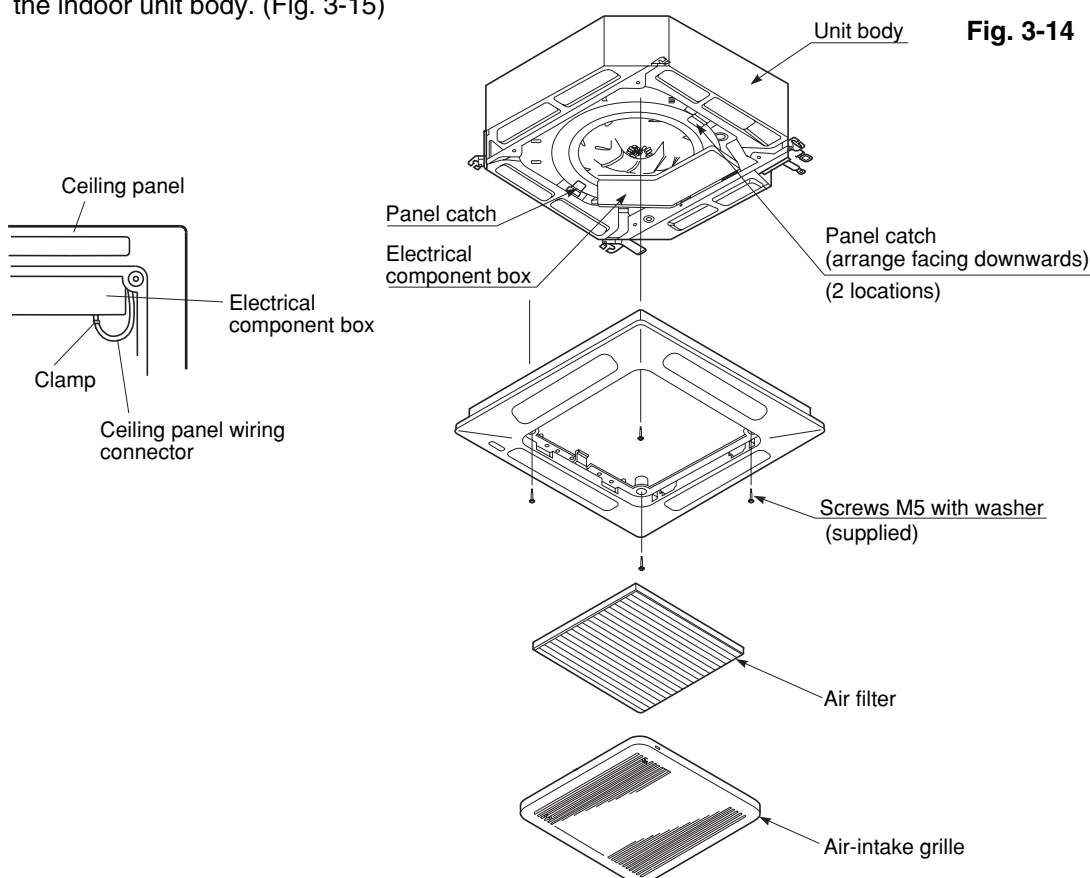

Fig. 3-15
- (2) Pull down the two panel catches on the body of the indoor unit body. (Fig. 3-15)